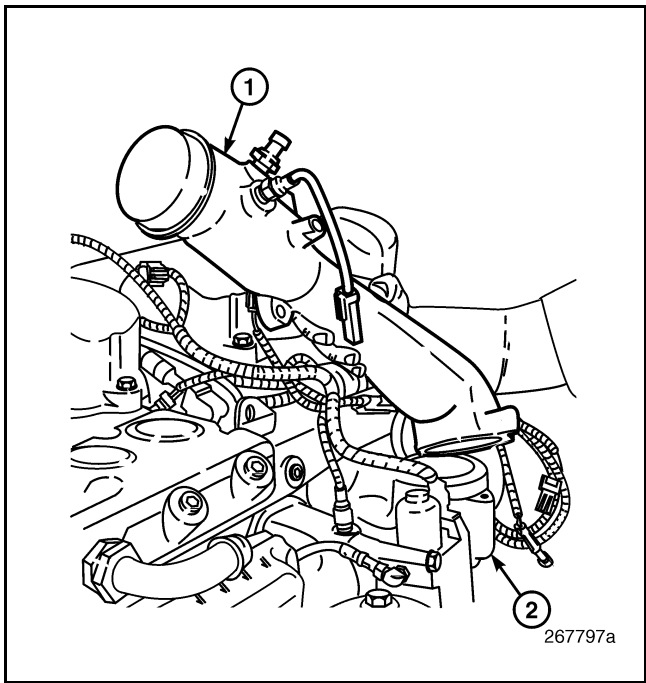

Figure 511 — EGR Gas Mixer
3. Place the mixer tube in position on the inlet manifold (Figure 511) and install the two mounting capscrews. Tighten the capscrews to specification, 40 lb-ft (55 N•m).